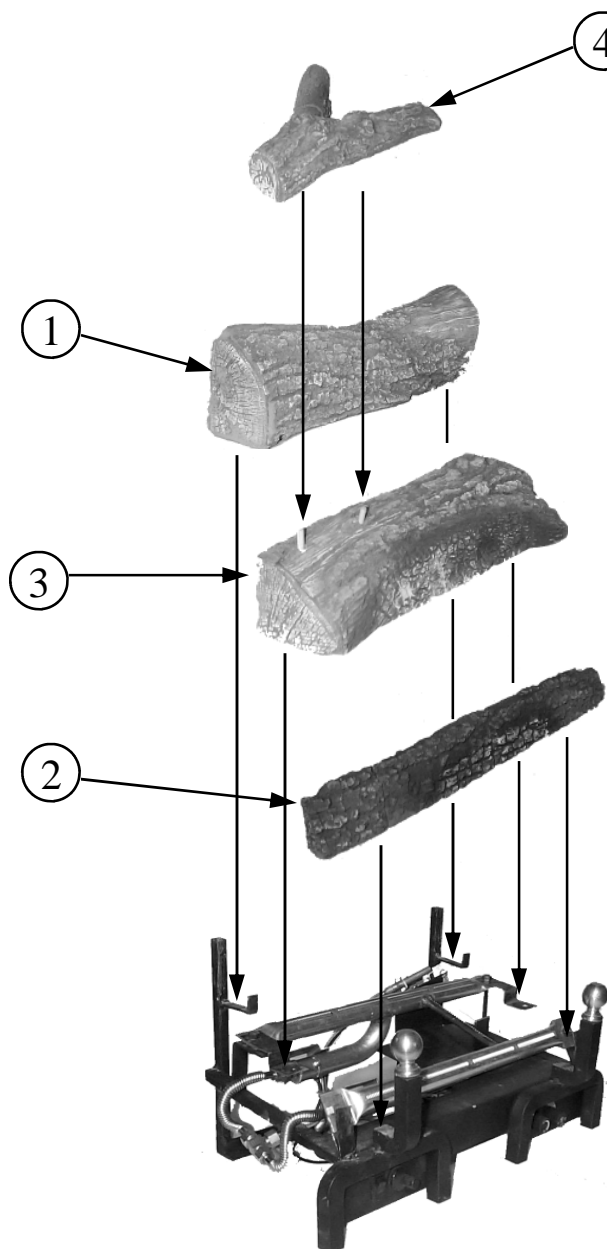

Figure 5
**WARNING:** POSITIONING OF LOGS IS VERY CRITICAL. (See Figure 5.)